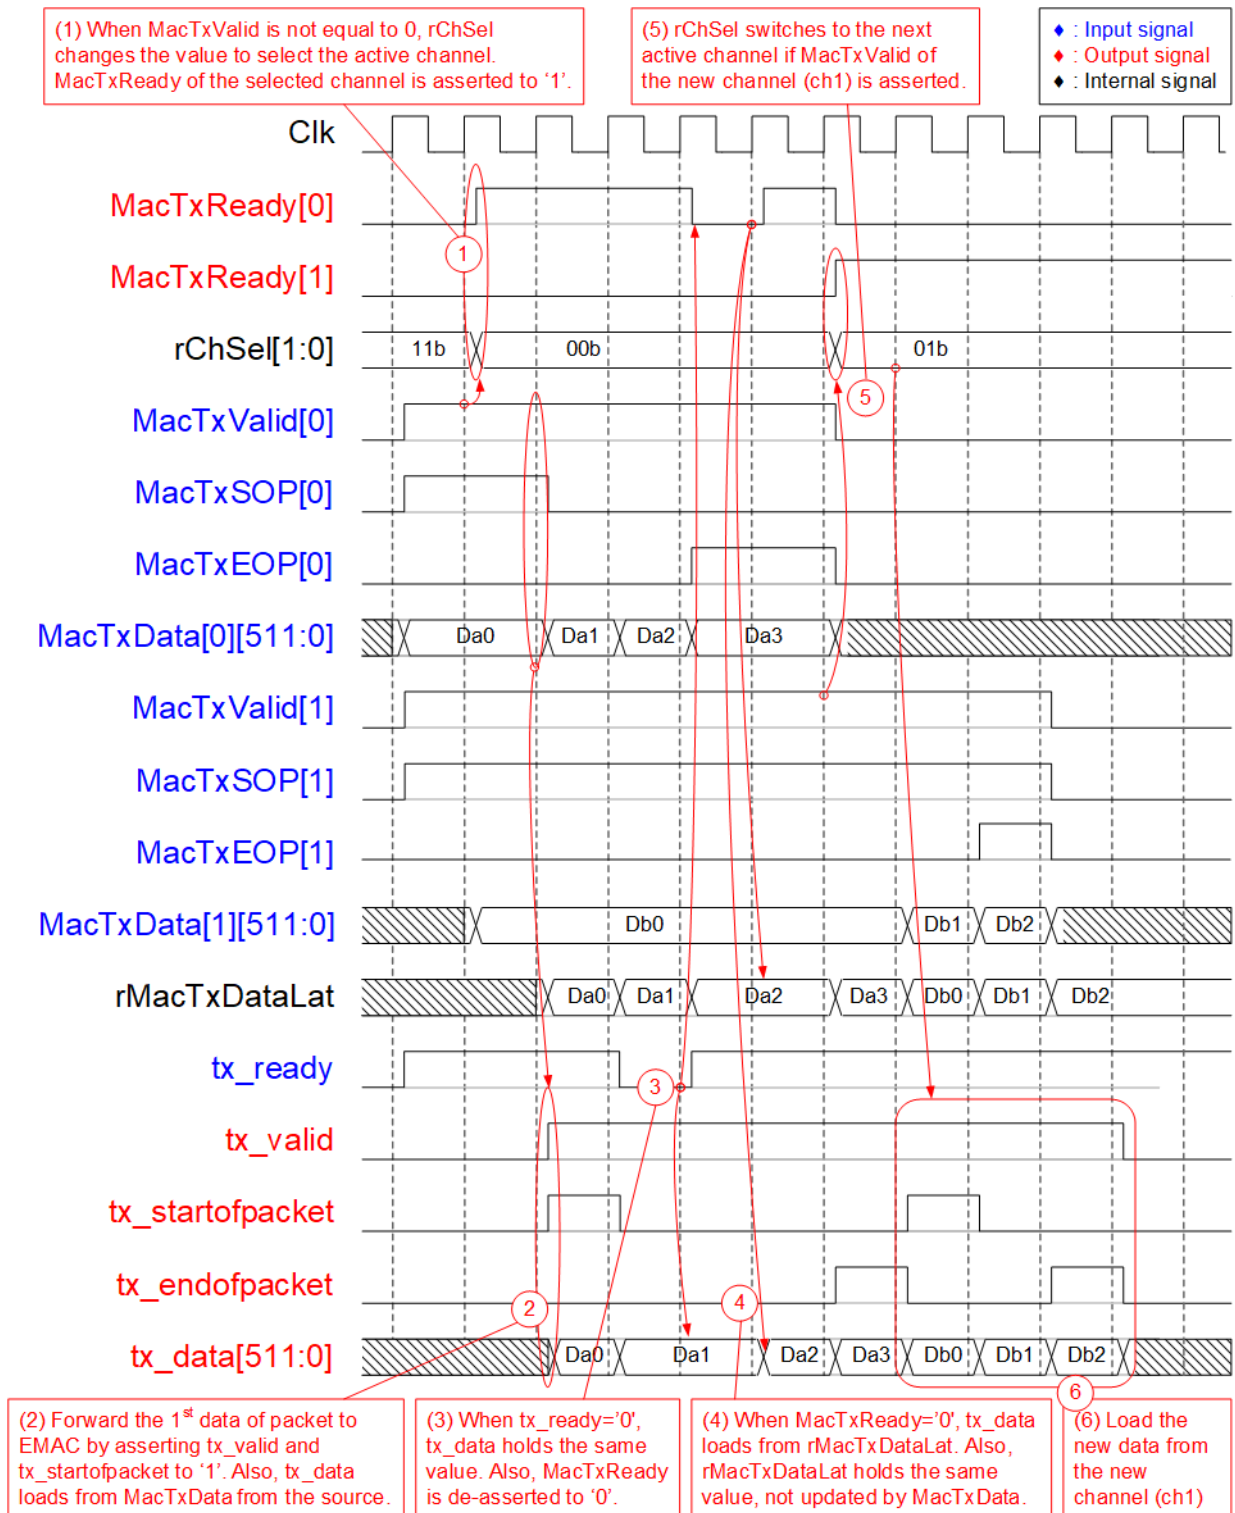

Figure 2-2 TxEMACMux4to1 timing diagram
The system consists of four TOE100G-IPs which share the same EMAC. Therefore, TxEMACMux4to1 is designed to transfer the transmitted packet from four TOE100G-IPs to one EMAC. The core signal inside this module is rChSel that is applied to select one active TOE100G-IP module from four modules. Timing diagram of this module is displayed in Figure 2-2.
- 1) If current channel (Ch#3) does not transfer the data and the new channel requests to transfer data by asserting MacTxValid to '1', rChSel (the signal to indicate the active channel) will switch the value to the new channel. In Figure 2-2, there are two channels that send the request at the same time. The selected channel will be the nearest channel of the order 0 -> 1 -> 2 -> 3 -> 0. Therefore, Ch#0 is higher priority than Ch#1 when the current channel is 3. MacTxReady of the selected channel (Ch#0) is asserted to '1' to accept the first data.
- 5) After accepting the final data of a packet from the active channel, the next active channel is scanned. If MacTxValid of remaining channels is asserted, rChSel will update the value following the rule (0 -> 1 -> 2 -> 3 ->0). In Figure 2-2, the next active channel is Ch#1, so rChSel is set to 01b to accept the data from Ch#1.